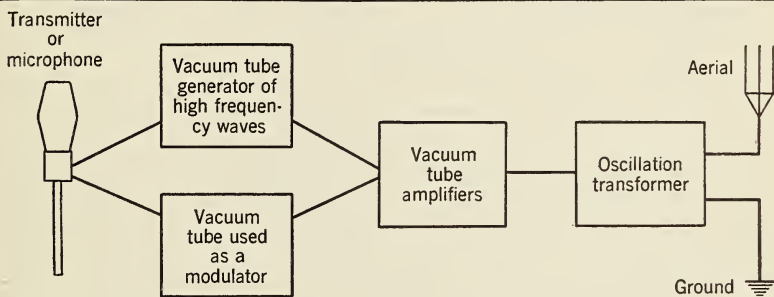

FIG. 18-13. This diagram shows how the voice is put on the air.
*400. How is the voice put on the air? Look at the diagram of Figure 18-13. In broadcasting, several vacuum tubes are used. One of them is an *oscillator*. As it vibrates, it produces high-frequency ether waves, which are *un-*